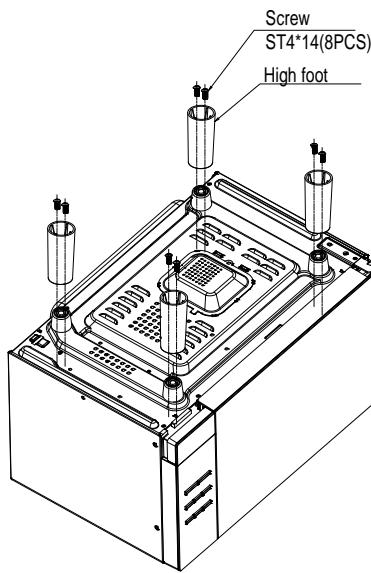
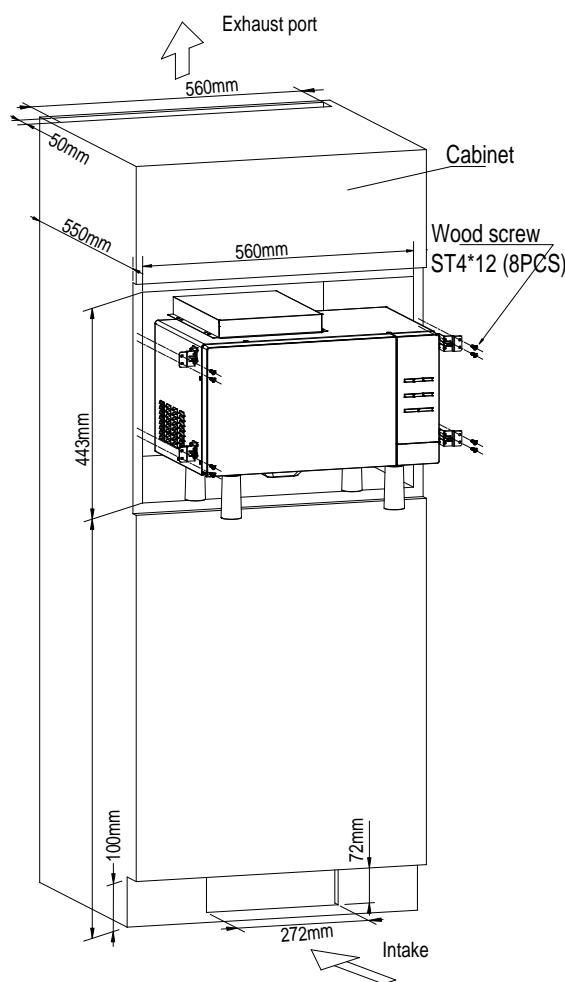

Fig 1
Fig 4
- a) Intake and exhaust port position, as shown in Fig.4.
- b) Net depth $\geq 550\text{mm}$, as shown in Fig.4.
② INSTALLATION:
- b) Install the high feet with self-lock screws, as shown in Fig.1
d) Place microwave oven into cabinet, and then fix it with wood screws, as shown in Fig.4